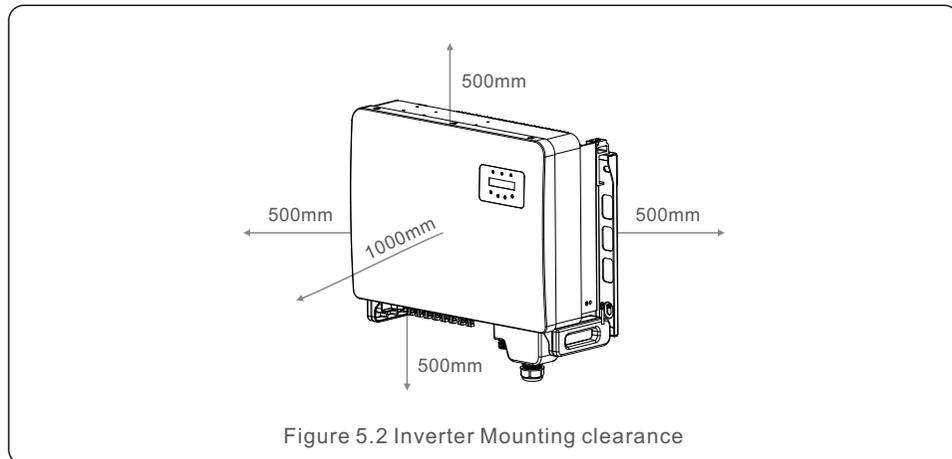

Figure 5.2 Inverter Mounting clearance
- When multiple inverters are installed on site, a minimum clearance of 500mm, should be kept between each inverter and any other mounted equipment. The bottom of the inverter must be at least 500mm from the ground or floor. See figure 5.2.